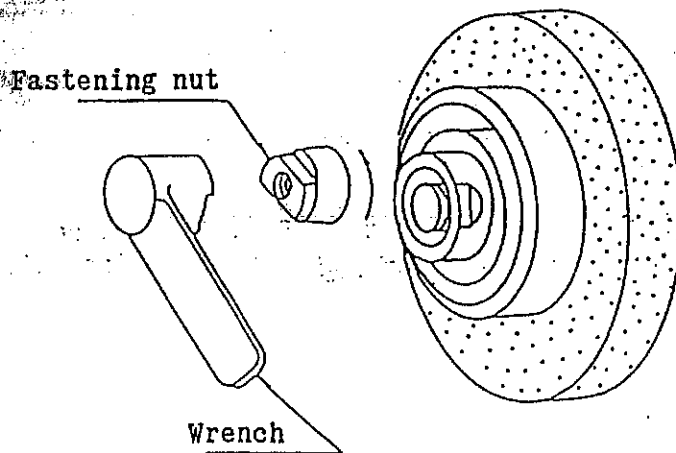

Fig. 11-3 Mounting onto the Wheel Spindle
- 1) Clean up the tapered portion of the wheel spindle to remove all dust. Screw the fastening nut as shown in Fig. 11-3 (left-handed thread, turns counterclockwise).
- 1) Place the wrench on the fastening nut, slightly hit it clockwise to loosen and remove the nut. ▶ See Fig. 11-3.